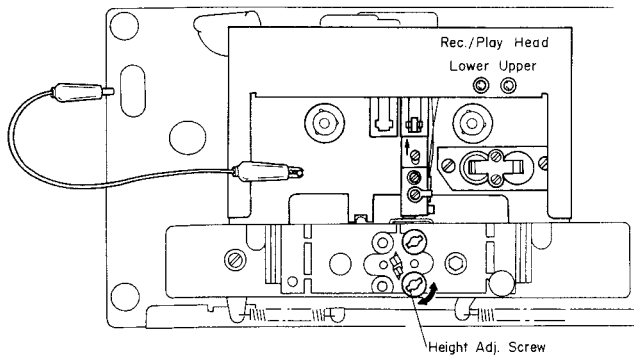
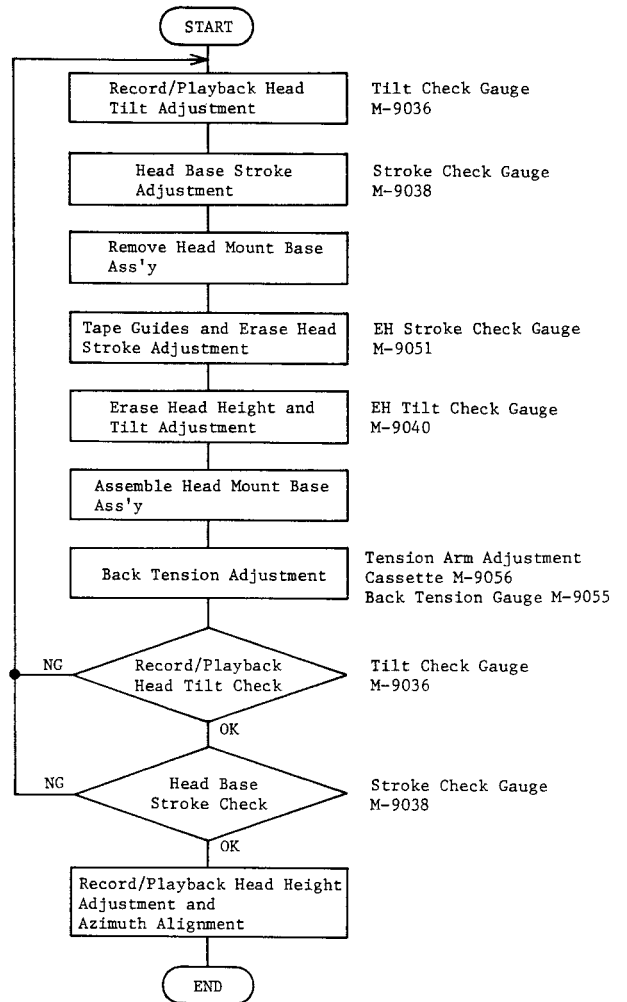

Fig. 4.5
Fig. 4.4
Note: On items 4.3 – 4.8, refer to Fig. 4.4 flow chart. Refer to Figs. 4.5 and 4.6.
- (1) Load a Tilt Check Gauge M-9036 (DA09036A) in the N-480Z.
- (2) Clip the grounding terminal of the Tilt Check Gauge with one end of the cord with clip, and the chassis of the N-480Z with the other end.
- (3) Remove the Height Gear.
- (4) Set the N-480Z in Play mode. Check to insure whether the Beacon "Upper" or "Lower" is illuminating. In order not to give damages onto the record/playback head surface, push the slide knob of the Gauge to the direction of an arrow mark, then return it to the original place to be in contact with record/playback head surface after Play mode is securely locked.
- (5) Check to insure freedom from contact between the Gauge and pad lifter.
- (6) Beacon "Lower" will light on when height adjustment screw turned clockwise but "Upper" when counterclockwise. Adjust so that both "Upper" and "Lower" will light on even when you move the slide knob to the direction of an arrow mark and then return it to the original place.
- (7) Set the N-480Z in Stop mode and fit the serrated Height Gear. Then set the N-480Z again in Play mode and insure 2 Beacons "Upper" and "Lower" are illuminating. If not, (3) through (6) will have to be repeated till satisfactory results are obtained.